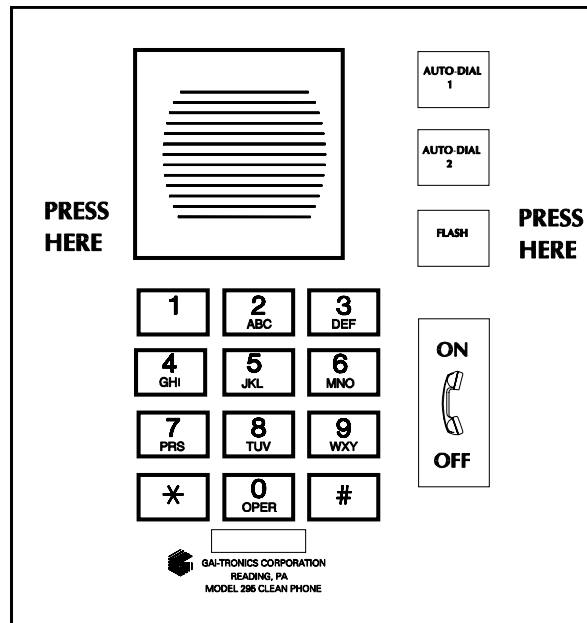

Figure 2. Front panel with pressure points shown
8. Using the pressure points shown in Figure 2, push the panel firmly in and then down.
7. Using the pressure point shown in Figure 2, push the panel firmly in and then down.